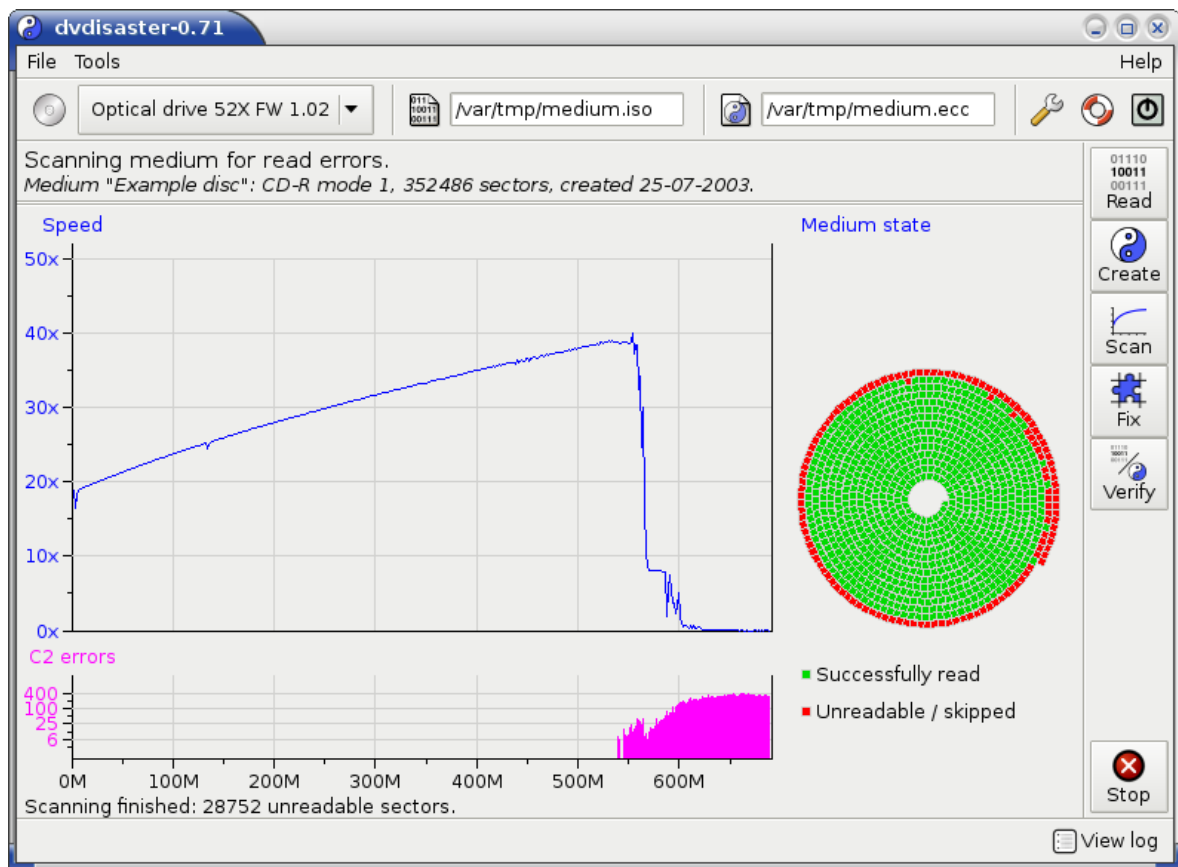

Figure 8: Scanning the medium.
**Overview.** dvddisaster provides several information about the scanning results (see fig. 8):